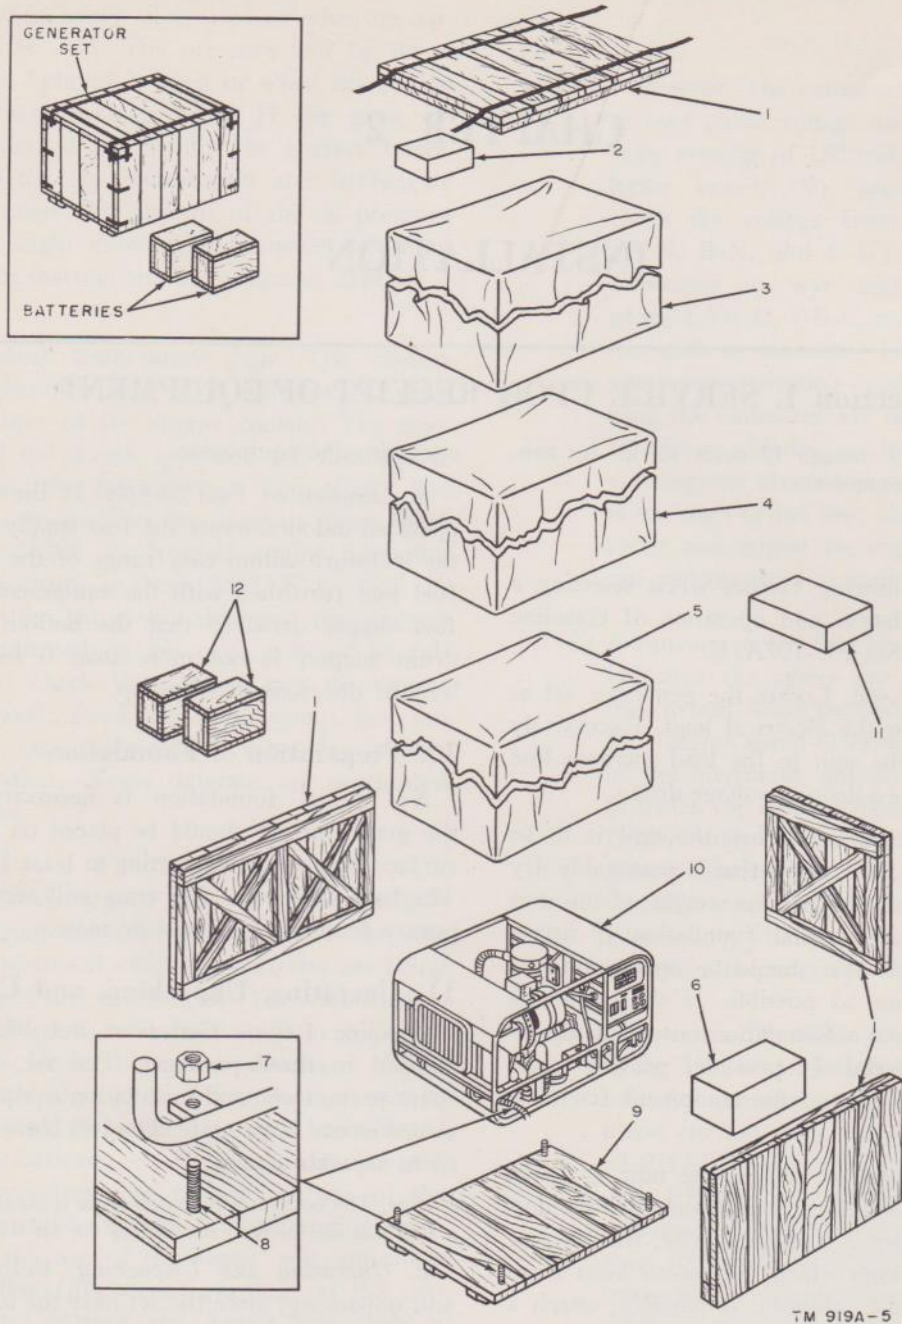

Figure 5. Generator set, packaging.
*a. Uncrating and Unpacking.* Before uncrating and unpacking, place the set near the location where it will be operated. Uncrate the set carefully to avoid damage. Use a nail puller and other appropriate tools. Be sure to remove all packages and parts within the crate or they may be accidentally discarded with the packing material. The set is inclosed in waterproof paper and a vaporproof barrier only when prepared for overseas shipment. When prepared for domestic shipment, the vaporproof barrier is not used. Refer to figure 5 and uncrate and unpack the equipment as follows: